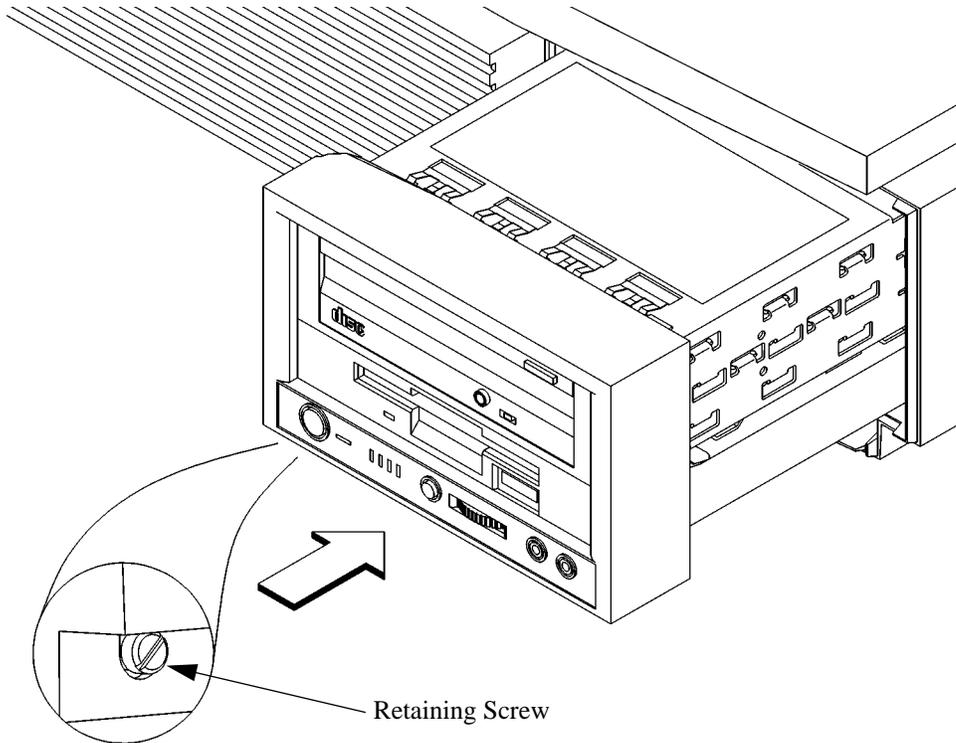

Figure 37
- 1 Slide the storage tray assembly into the system unit chassis, as shown in Figure 37.
- 2 Tighten the storage tray retaining screw, as shown in Figure 37.